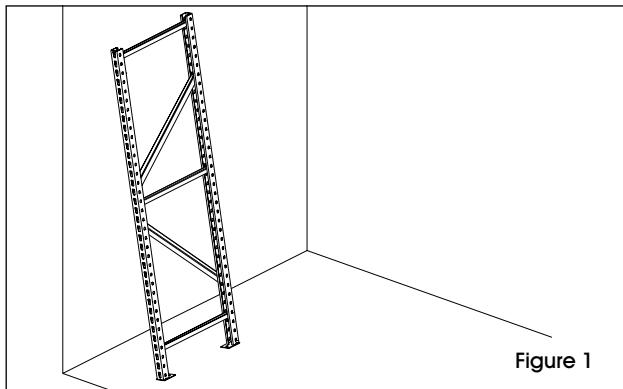

Figure 1
1. Lean upright against wall or assemble with another person. (See Figure 1)